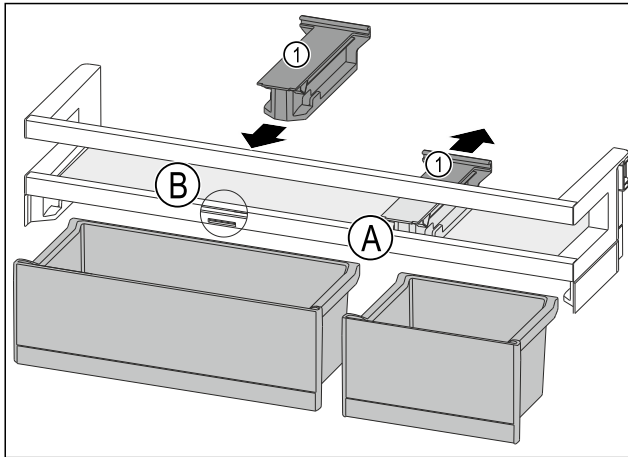

Fig. 188
- ▶ Take off the holding part Fig. 188 (1) in position Fig. 188 (A) backwards.
- ▶ Insert the holding part Fig. 188 (1) in position Fig. 188 (B).